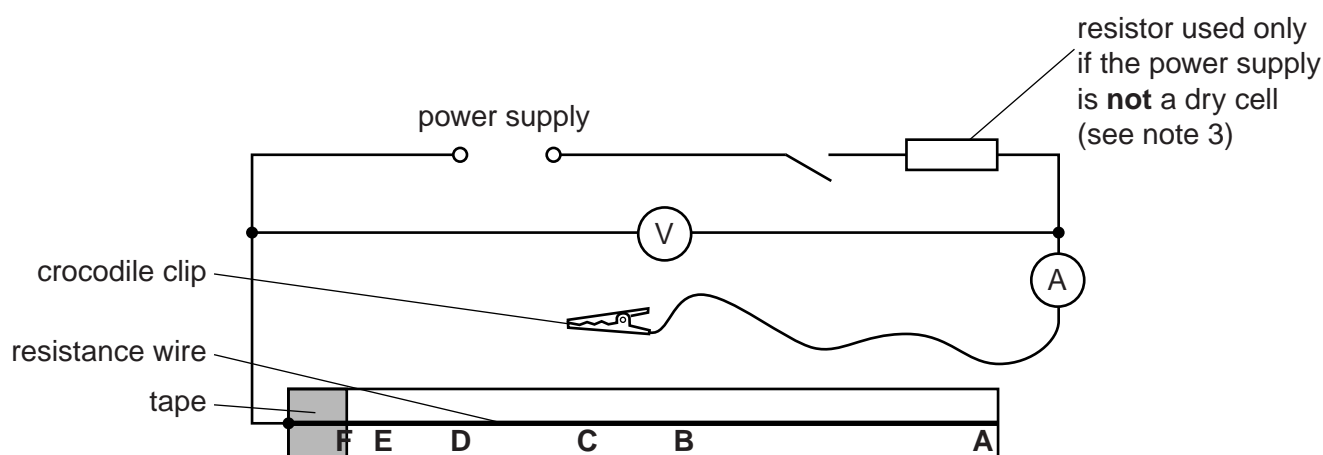

Fig. 3.1
- (vii) Sufficient leads to set up the circuit shown in Fig. 3.1.
- The circuit is to be set up for candidates as shown in Fig. 3.1. The crocodile clip should **not** be connected to the resistance wire.
- If the power supply is a power pack or lead acid cell, rather than a dry cell, a $1\ \Omega$, 3W resistor must be connected in series with the power supply, as shown in Fig. 3.1.